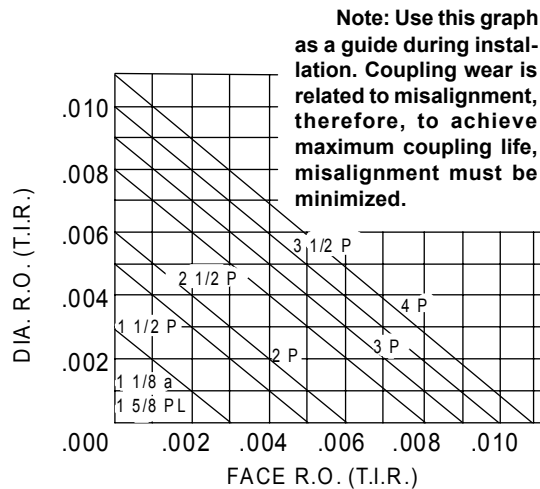

Figure 4 — Limits of Misalignment
- A. Instrument method, the most accurate, is recommended. Attach dial base to one of the hubs and the indicator needle against the face of the other hub. Rotate both hubs 360°, taking indicator readings at four points 90° apart. Adjust machines until all four readings are identical, referring to Figure 4 for maximum angular misalignment. Relocate the dial base to the opposite hub and repeat the procedure.
- B. Feeler gage may be used when dial indicator is unavailable or shaft separation is too small. Check with feeler gage at four points 90° apart. Adjust machines until all four readings are identical. Refer to Figure 4 for maximum angular misalignment.
- D. Again the dial indicator is recommended as being most accurate. Attach dial base to one hub and set dial indicator button in contact with surface (O.D.) of opposite hub as shown. Rotate hub on which indicator is mounted 360°, taking indicator readings at four points 90° apart. Adjust machines until all four readings are identical, referring to Figure 4 for maximum misalignment. Relocate dial base to opposite hub and repeat the procedure. Recheck angular alignment.